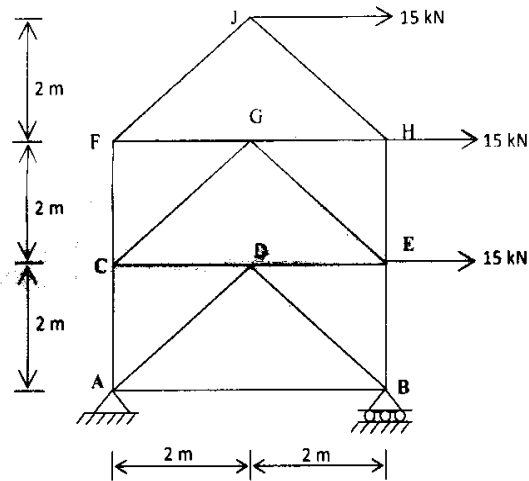

Fig. 4
4. (a) Determine support reaction and the force in members **AC** and **BE**, of a truss as shown in Fig. 4